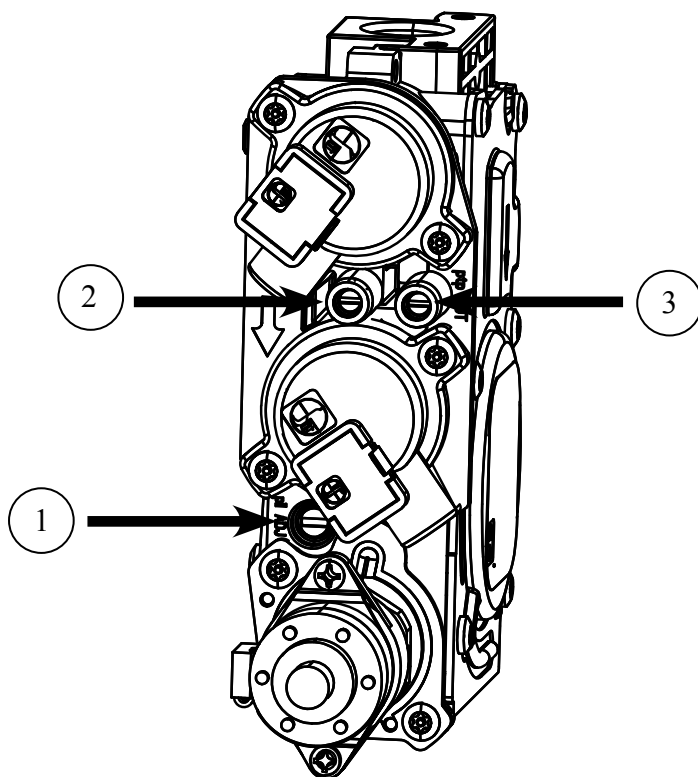

Figure 33: Valve Details.
The pressure taps are located on the front side of the valve (see Figure 33).
1. The adjustment screw can be reached through the front of the unit using a 10 inch long blade head screw driver (see Figure 33 for location on valve).